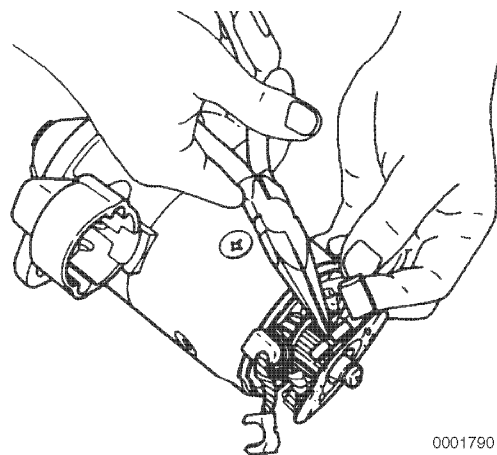

Figure 8-33
8. Position the brush springs in brush holders. Install the brushes in the brush holders. Reversing the brushes will cause the starter motor to turn backwards (**Figure 8-33**).